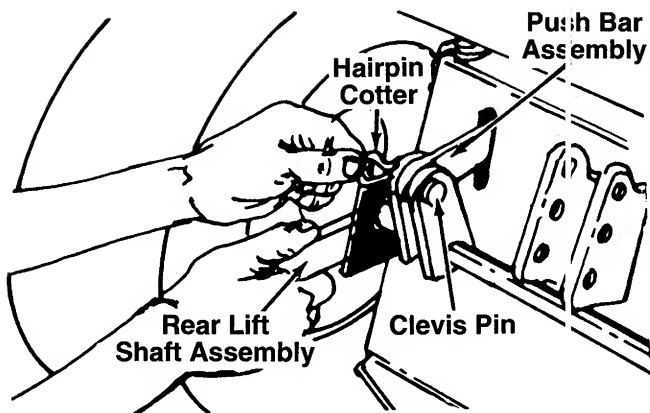

FIGURE 7.
1. Raise the lift shaft assembly until the hole lines up with the slot in the push bar assembly. See figure 7.